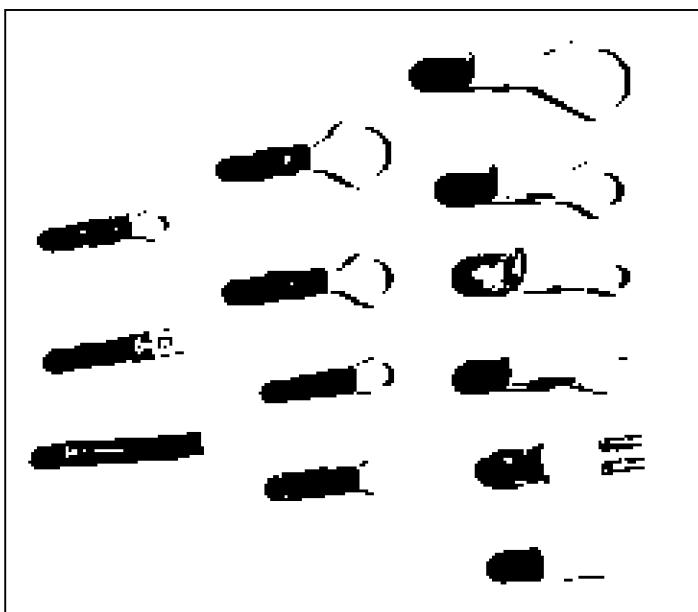

Figure 12-2:
- ✓ **Crimp-on wire terminals:** These wire terminals, as shown in Figure 12-2, make secure, professional-looking connections if you have a good-quality crimp tool and use it according to its directions.